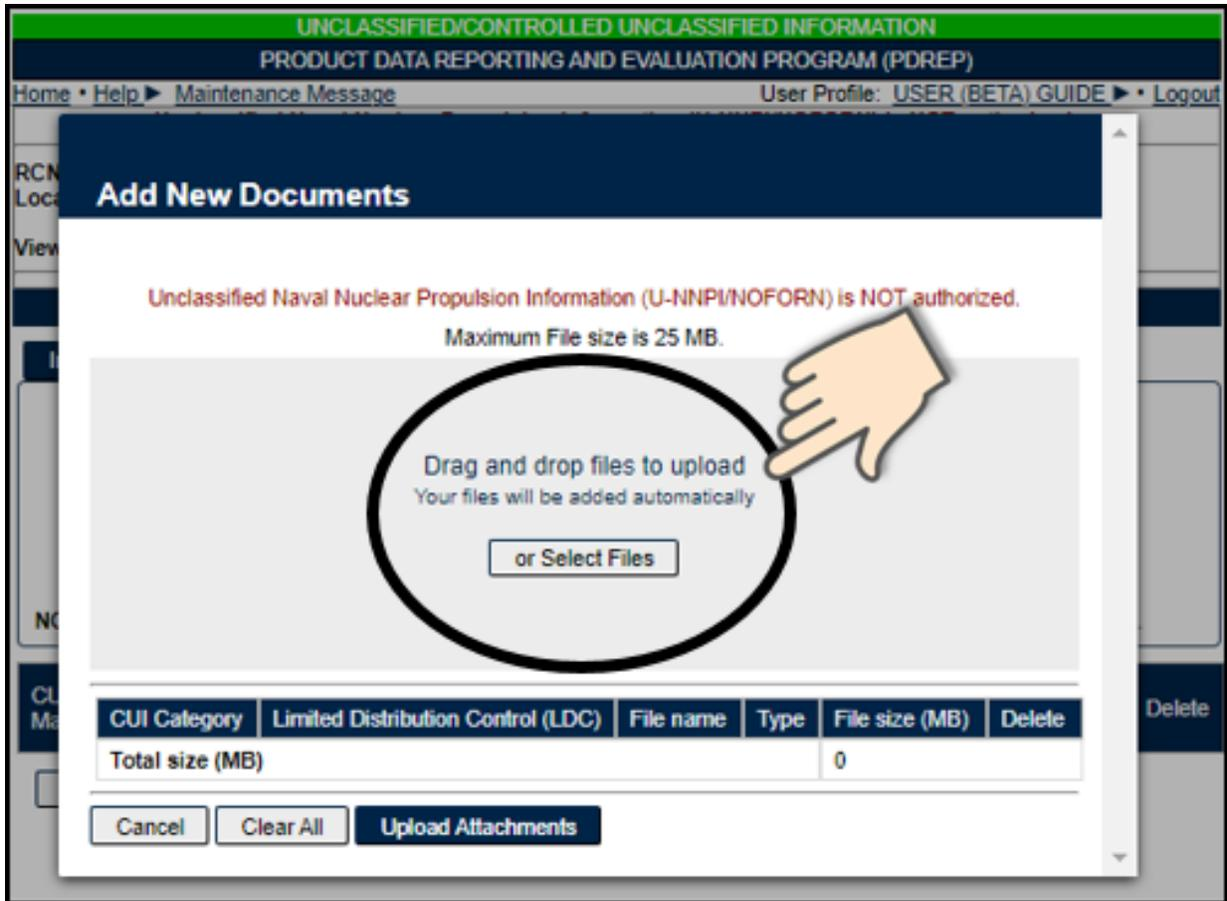

Figure 2.3
A. Selecting the *Add Attachment* button will take you to the Upload Attachment(s) screen (see **Figure 2.3**). There are no file type restrictions for PDREP, although the maximum individual file size is 25MB. The *Back* button will return you to the previous screen. It is important to note that non-Nuclear Users are NOT AUTHORIZED to upload or attach Unclassified Naval Nuclear Propulsion Information (U-NNPI/NOFORN). You can see the notice in red on each upload screen (see **Figure 2.3**).